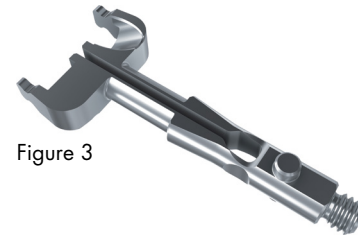

Figure 3
b. Select the preferred Implant Insertion Tip (37-IN-04XX) and assemble the Implant Inserter Handle (37-IN-0010). (See below), (Figures 3 and 3a).